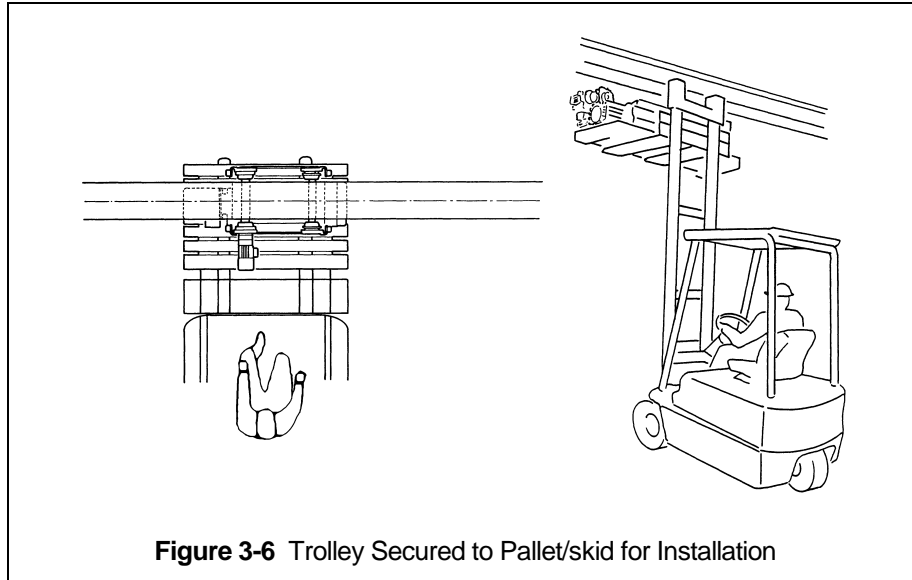

Figure 3-6 Trolley Secured to Pallet/skid for Installation
⚠ WARNING When installing the trolley hoist on a beam, ALWAYS raise the hoist into position with the trolley assembled together and securely attached to a pallet/skid. Raise the trolley hoist with a forklift, lifting platform, or other similar means. NEVER use slings to raise and install the trolley hoist onto the beam. Using a forklift or another suitable means, position the pallet/skid so that the horizontal axis of the beam is parallel to the horizontal axis of the trolley hoist as shown in **Figure 3-6**.
- 2) Install any additional devices, if any (power supply cords or pendants, for instance – see **Section 3.7**) onto the trolley hoist. If the trolley hoist is not secured to a pallet, place and secure it to one making sure that the trolley hoist is completely stable as shown in **Figure 3-6**.